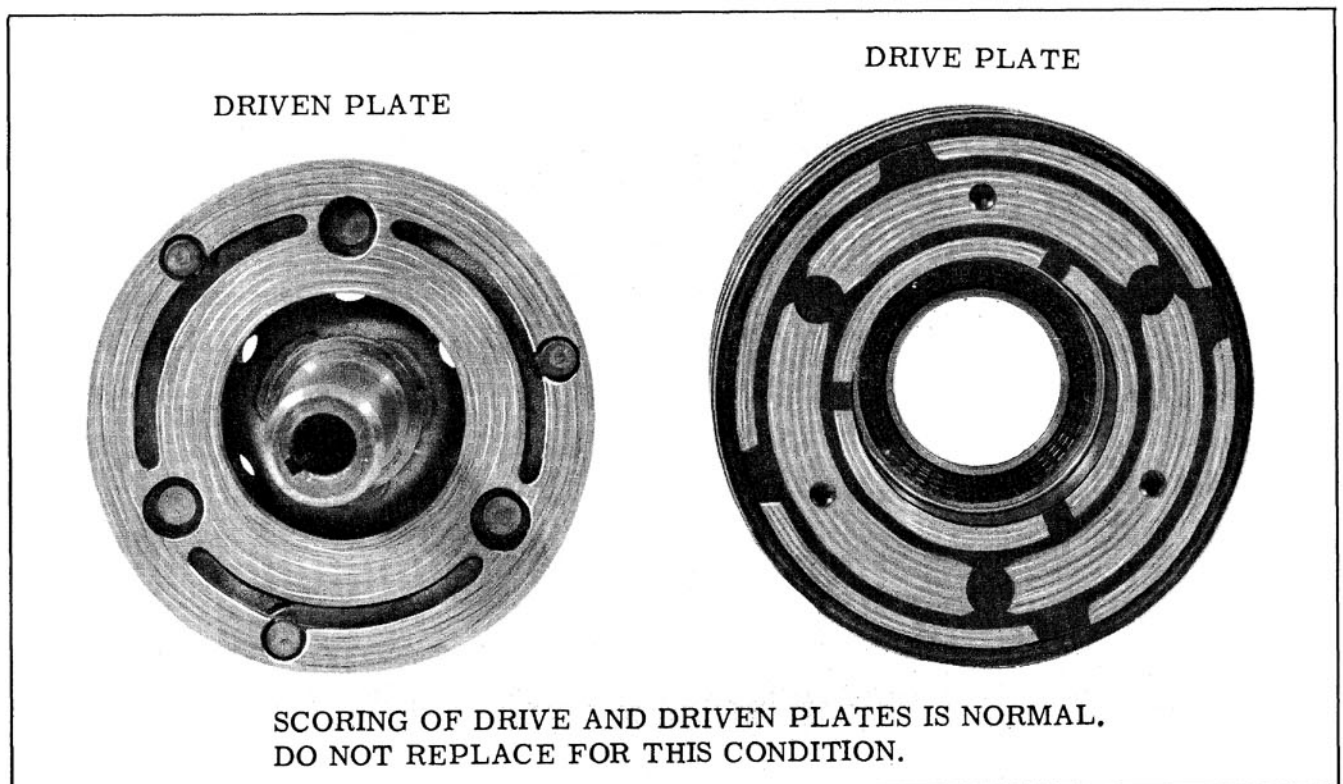

Fig. 14-77 Normal Clutch Plate Wear
6. Inspect driven plate for cracks or stresses in the resilient drive. Do not replace driven plate for a scoring condition. (Fig. 14-77).